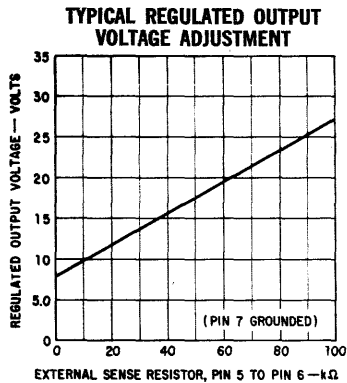

FIGURE 2
- (2) Selection of Output Voltages: By externally connecting a preselected sense resistor (see figure 2) between pin 5 and pin 6 any desired output voltage in the range of 8.5 V to 30 V is achieved.